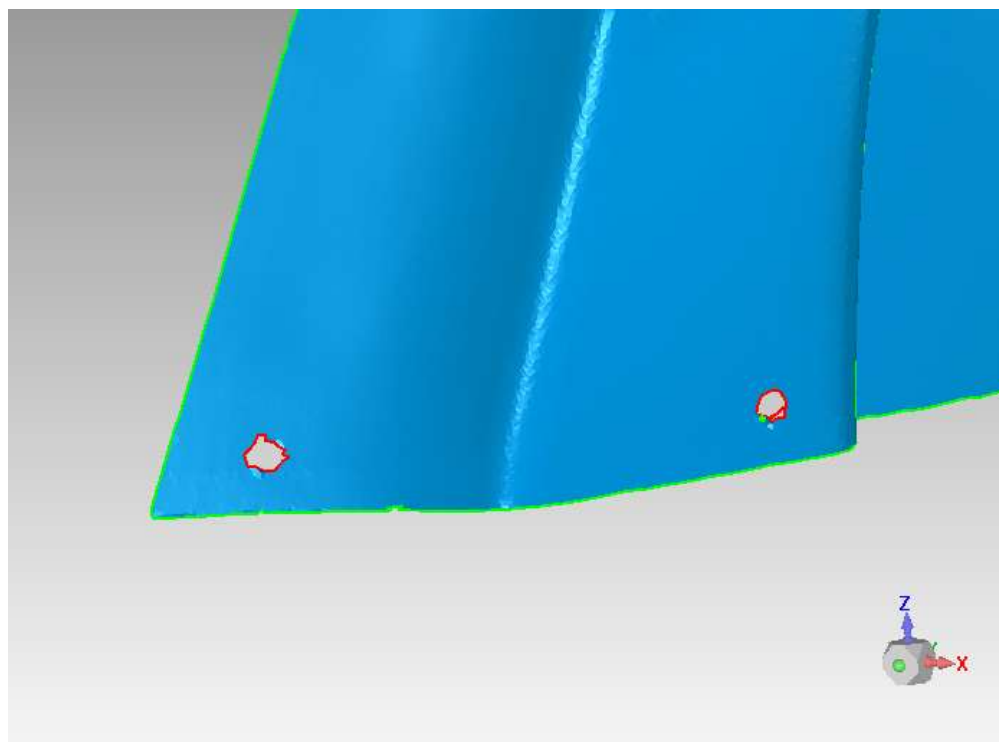

Figure 92
2. Locate the holes in **Figure 92**; the boundaries are **red**, which means they will be filled if not deselected. Hover the cursor over one of them; hold the **CTRL** key down while you **LMB** click the boundary.
- The hole boundary will be deselected and removed from the hole count, perform the same operation on the other hole shown in **Figure 92**.